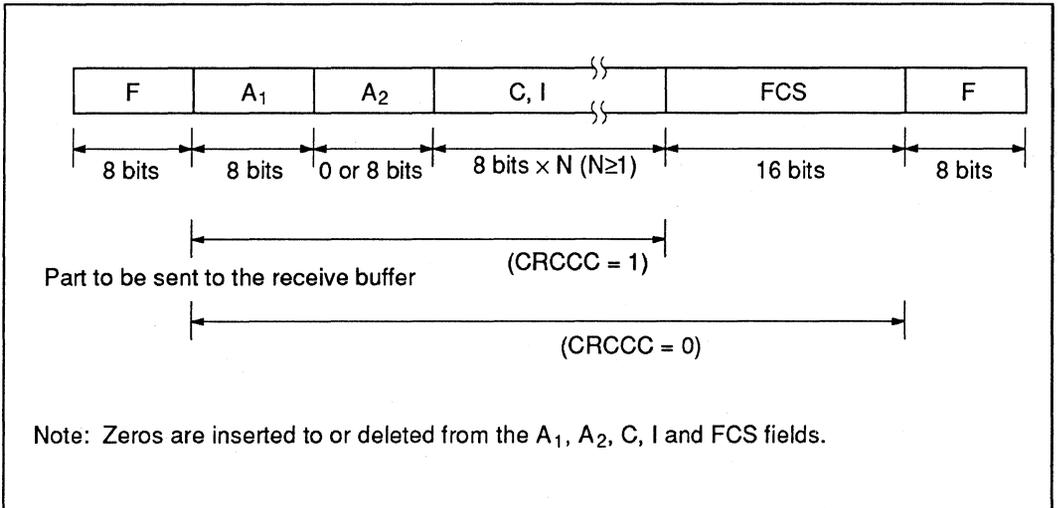

Figure 5-25 Message Format for Bit Synchronous Mode
The message format for bit synchronous mode is shown in figure 5-25. The address (A) and control and information (C and I) fields are configured in byte units and are sent to the receive buffer. Except the frame check sequence (FCS) field, data is transmitted or received beginning with the least significant bit. The FCS field data is transmitted and received beginning with the most significant bit.